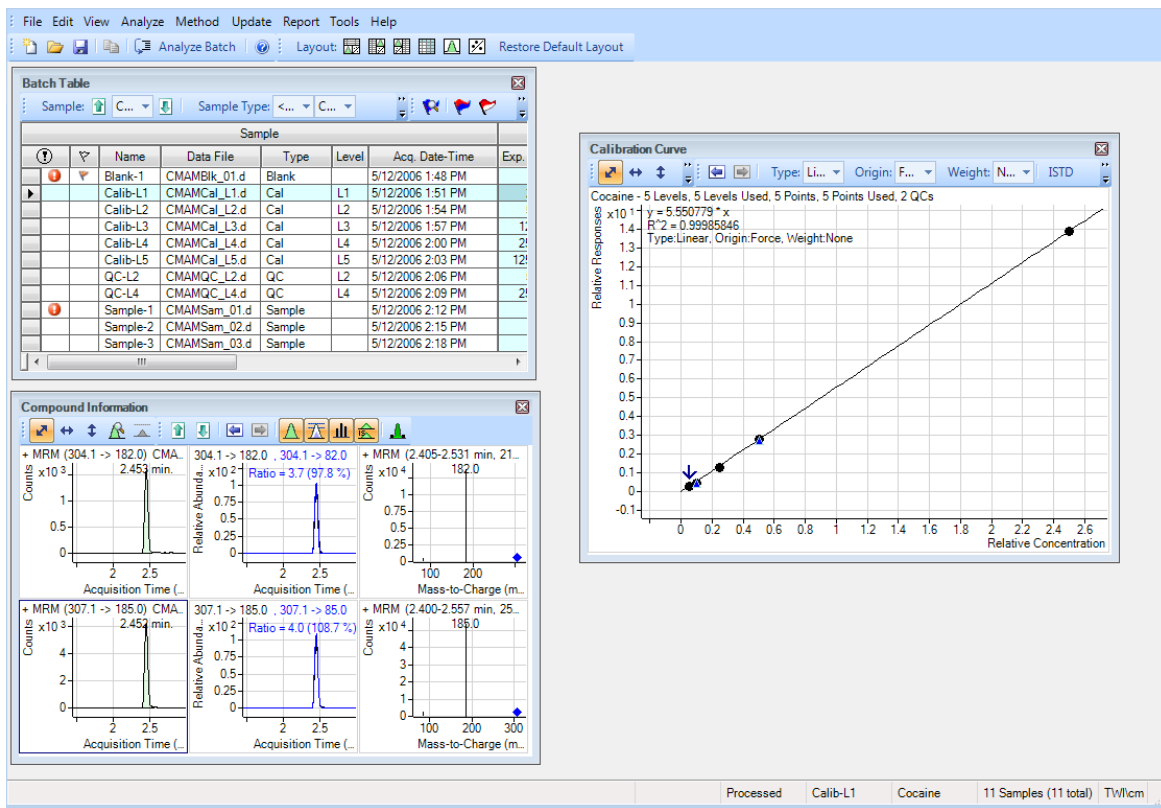

Figure 9 Resized window
- f Resize the windows to match the layout in Figure 9.